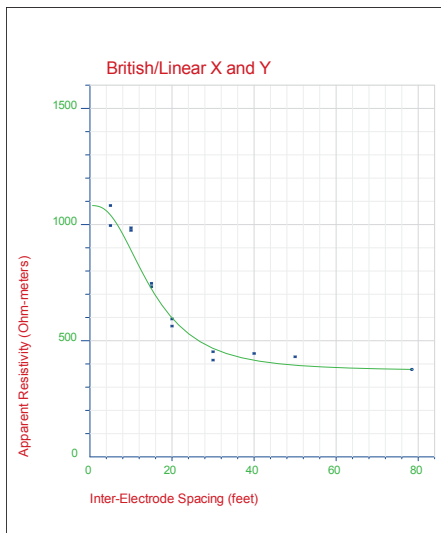

Figure 1
**Figure 1 - Soil Model Based on Average Field Data**, illustrates actual soil resistivity data collected by field testing of up to a 150-foot depth. The computer model consists of two-layer configurations: 17 ohm-m for the top 75 feet, followed by 53 ohm-m. It is evident that if the soil measurements stopped at a 40-foot depth, any subsequent changes in soil conductivity would have been missed.